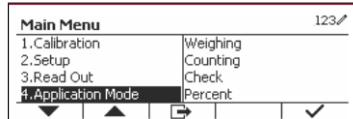

Figure 73
- Press the  button to enter Main Menu. With the softkey corresponding to the ▼ icon, go down list and highlight Application Mode. (See Figure 73)
- Enter this submenu by pressing the button corresponding to the ✓ icon. (See Figure 73)